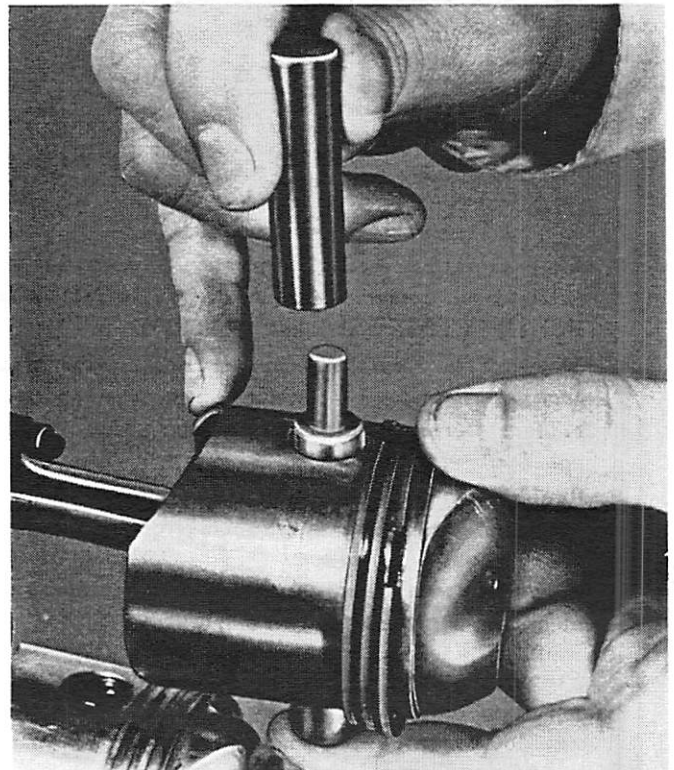

Figure 15. Inserting Piston Pin on Piston Pin Tool
6. Push out sleeve with punch part of tool from bottom and set open end of piston pin on small end of piston pin tool. (Figure 15)